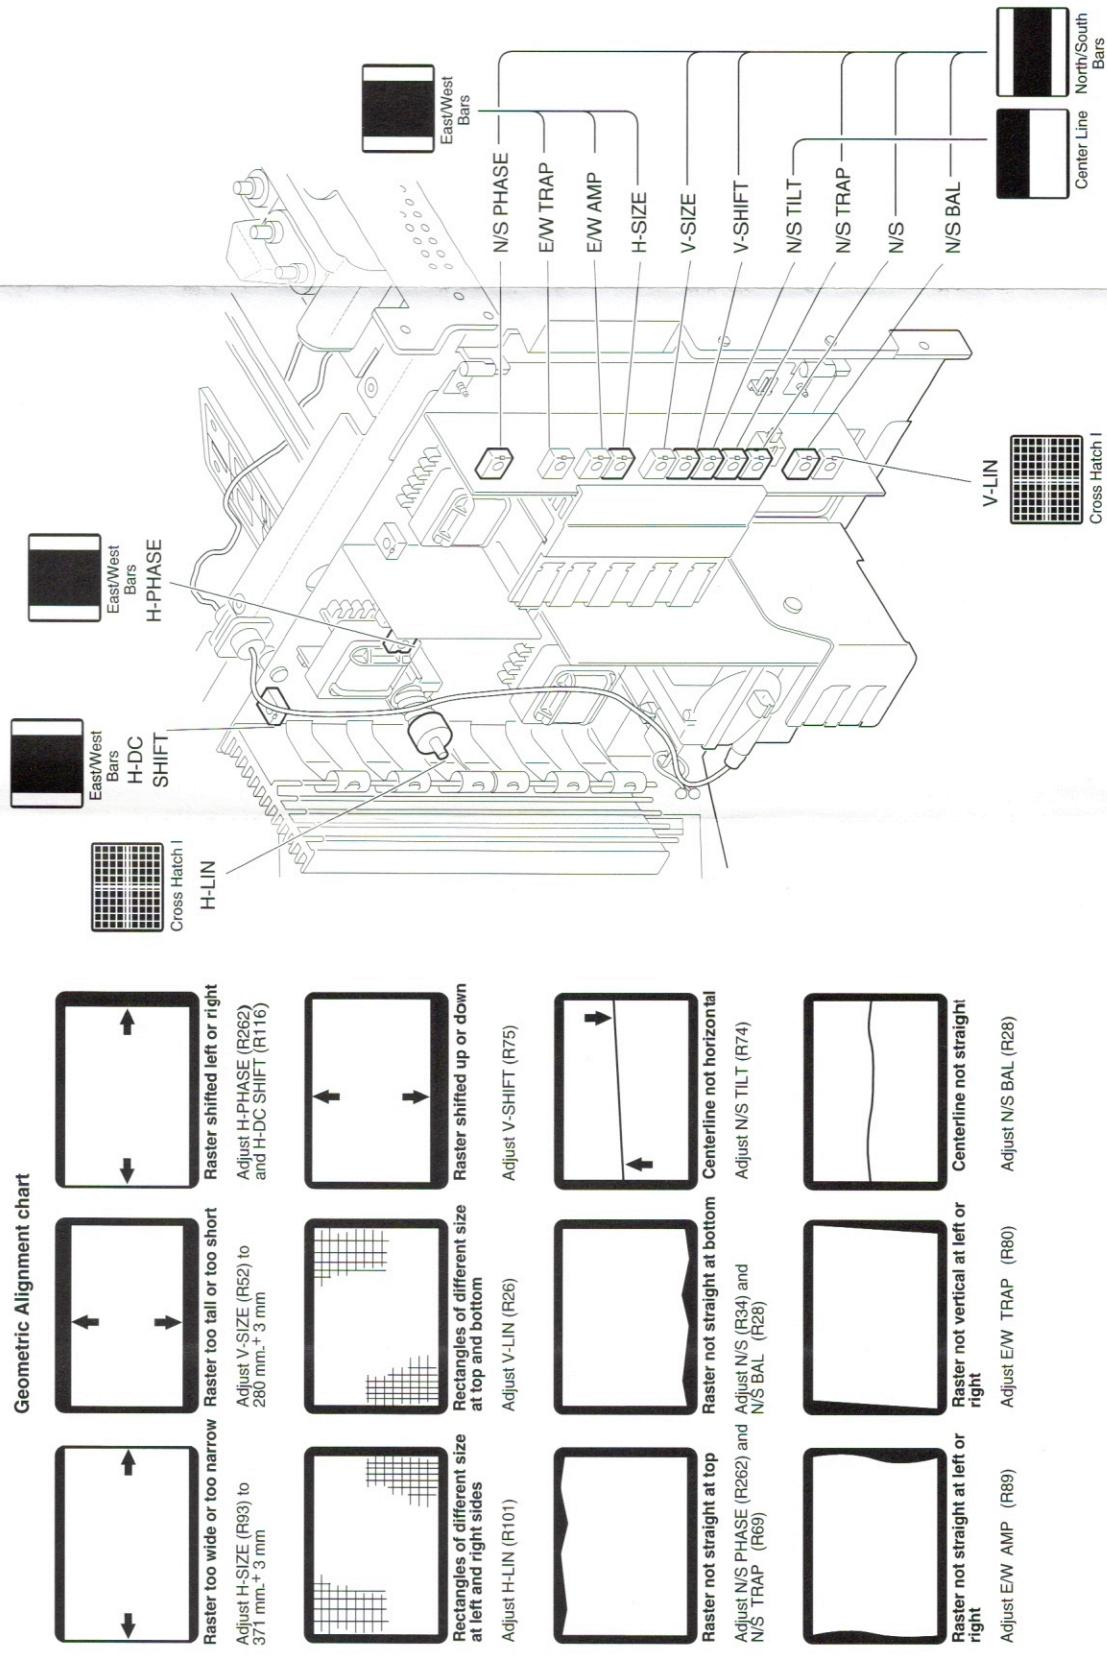

Figure 68. Macintosh 21" Color Display Geometry Adjustments
Reference the “Geometry Adjustments Foldout,” Figure 68, when performing Geometry adjustments. Unfold Figure 68 so the graphic is visible while making adjustments.
5. Using the insulated screwdriver, adjust the H-SIZE control (see Figure 68) until the raster is 371 mm (\pm 3 mm) or 14 11/16 in. (\pm 1/8 in.) wide.
- 7. Using the insulated screwdriver, adjust the V-SIZE control (see Figure 68) until the raster is 280 mm (\pm 3 mm) or 11 in. (\pm 1/8 in.) high.
- 2. Using the insulated screwdriver, adjust the H-PHASE control (see Figure 68) counterclockwise until the left bar wraps at the left edge of the screen. Turn the control back until the right bar stops. Center the control between these points.
- 3. Using the insulated screwdriver, adjust the H-DC SHIFT control (see Figure 68) until the left and right bars are centered in the screen.
- 5. Using the linearity adjustment tool, adjust the H-LIN control (see Figure 68) until rectangles on the left and right side of the raster are the same size.
- 6. If necessary, readjust the H-DC SHIFT control (see Figure 68) centering the pattern in the screen.
- 8. Using the insulated screwdriver, adjust the N/S PHASE control (see Figure 68) until the top and bottom horizontal lines are as straight as possible.
- 9. Adjust the N/S TRAP control (see Figure 68) until the topmost and bottommost lines are parallel. (The N/S TRAP control fine-tunes the N/S PHASE control.)
- 11. Using the insulated screwdriver, adjust the N/S TILT control (see Figure 68) until the centerline is horizontal.
13. Using the insulated screwdriver, adjust the N/S (amplitude) control (see Figure 68) until the top and bottom horizontal lines are as straight as possible.
14. Using the insulated screwdriver, adjust the N/S BAL control (see Figure 68) until the top and bottom horizontal lines are as straight as possible.
16. Using the insulated screwdriver, adjust the V-LIN control (see Figure 68) until the height of the rectangles at the top and bottom of the pattern are the same size.
18. Using the insulated screwdriver, adjust the V-SHIFT control (see Figure 68) until the top and bottom bars are positioned in the vertical center of the screen.
19. Using the insulated screwdriver, adjust the V-SIZE control (see Figure 68) until the raster is 280 mm (\pm 3 mm) or 11 in. (\pm 1/8 in.) high.
21. Using the insulated screwdriver, adjust the E/W TRAP control (see Figure 68) until the left and right vertical lines are straight.
22. Using the insulated screwdriver, adjust the E/W AMP control (see Figure 68) until the left and right vertical lines are parallel.
23. Using the insulated screwdriver, adjust the H-SIZE control (see Figure 68) until the raster is 371 mm (\pm 3 mm) or 14 11/16 in. (\pm 1/8 in.) high.